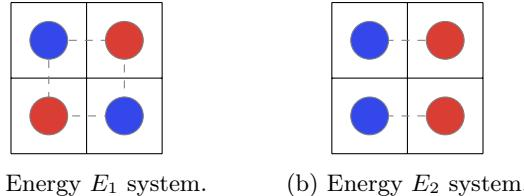

Figure 2.4: Nearest neighbor interactions.
- Let opposing objects in neighboring cells contribute energy  $\varepsilon_1$  to the total energy of the system. This means that in Figure 2.4,  $E_1 = 4\varepsilon_1$  and  $E_2 = 2\varepsilon_2$ .